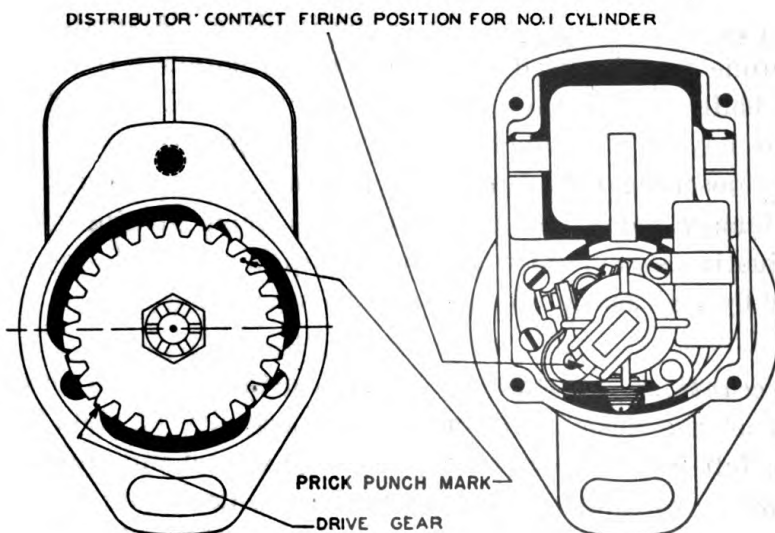

Figure 21.—Drive Gear Marking and Assembly
*i. Special Drive Gear.*—The magneto is equipped with special drive gears, mounted directly on the impulse coupling. The gear is a slip fit on the extended coupling nut, since movement of the gear with respect to the coupling nut (and rotor shaft) occurs during the impulse period. If it is necessary at any time to remove the drive gear, special care must be exercised in reassembly. First, remove the entire end cap and turn the rotor until the contact segment is in firing position for No. 1 cylinder (fig. 21). With the rotor in this position, fit the gear to the coupling lugs so that the prick punch mark on the rim of the gear is in the position shown (fig. 21).